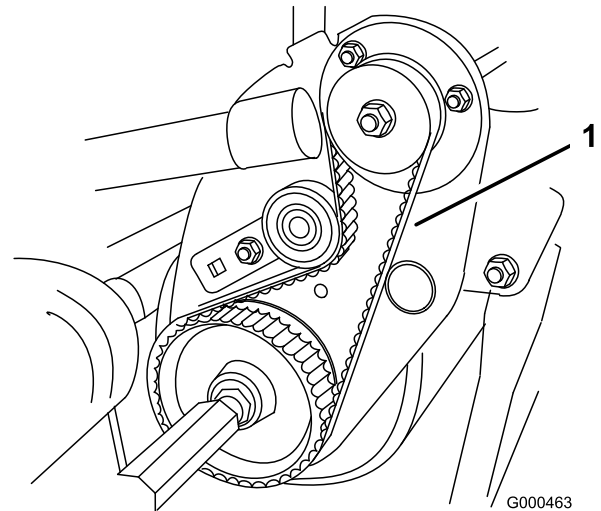

Figure 39
2. Check tension by depressing belt (Figure 39) at mid span of pulleys with 4 ± 1 lb of force. Belt should deflect 3/16 to 5/16 inch (4.8 to 7.9 mm). If the deflection is incorrect, proceed to next step.